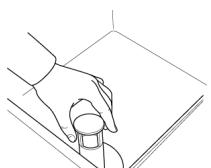

Fig.26
- Open the door and verify that all internal components, the water flow device included, are in the correct position. (Fig.26)